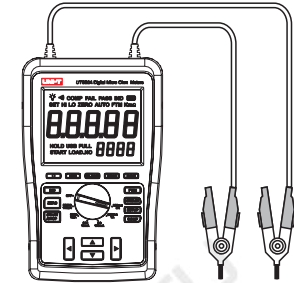

Figure 6
- Connect Kelvin clips to T+ and T- terminals and to the object under test (See Figure 6);